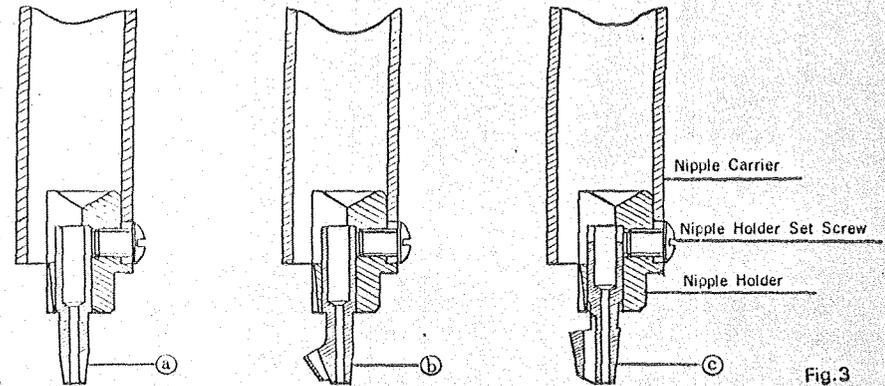

Fig.3
5. NEEDLES, NIPPLES AND THREAD (Fig. 3)
The nipples for TREASURE ES-1114-10 are available in the following kinds, as per Fig. 3.
Next, insert the selected nipple ⑮ into the lower part of nipple holder ⑯ and tighten screw securely with the screwdriver. Insert the nipple holder ⑯ into the nipple carrier (Fig. 3) and tighten screw securely. Screw selected needle into needle bar ④ and tighten with pliers provided. Replace needle bar ④ down into sleeve and adjust its height so that the fabric to be embroidered can just pass under the point of the needle.